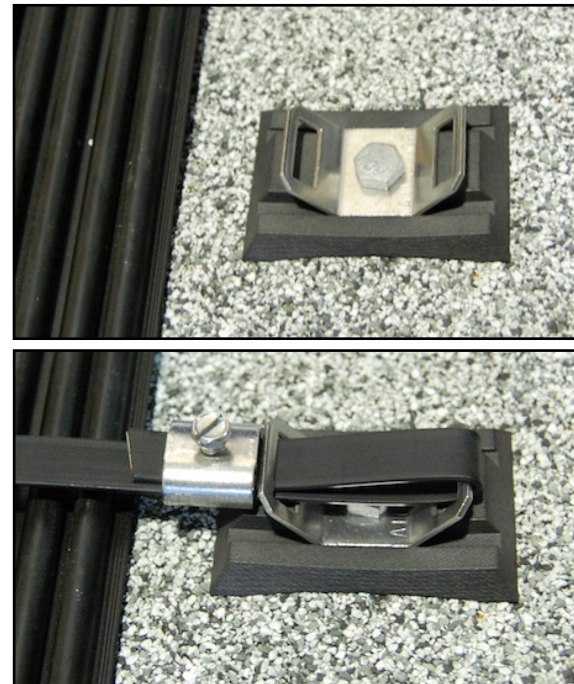

FIGURE 5
2. Drill a pilot hole and apply sealant, then mount the *Flashing Base and Hold-Down Strap Bracket*. Slip a *Strap Hold-Down Clamp* (PN 10011) over the end of the strap prior to pulling it through (refer to **Figure 5**).
3. Loop approx. 2" of strap through the *Outlet Header Bracket* and then back through the *Hold-Down Strap Clamp*. Slide the *Hold-Down Strap Clamp* towards the *Hold-Down Strap Bracket*. The screw should be tightened securely, but not over-tightened to the point where the clamp is distorted (refer to **Figure 5**).